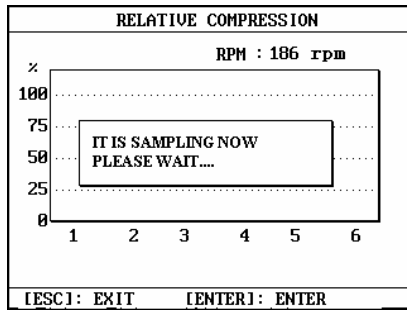
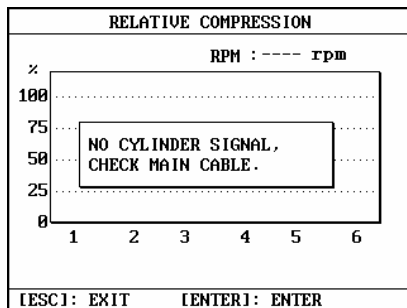

Fig.7-52
Fig.7-53
- ◆ After the engine is started, the screen will be displayed as shown in Fig.7-52. KES-200 is collecting data now. If the cylinder 1 signal cable is not connected properly, the screen as shown in Fig.7-53 will be displayed. Connect the cylinder 1 signal cable properly and test again.
- ◆ If the engine cannot be started after 50 seconds, the screen will be displayed as shown in Fig.7-53. In this case, you must press [ESC] key to exit, and then re-enter and try the test again.
If the test cable is not connected properly, the screen will be displayed as shown in Fig.7-53 after engine is started. It is necessary to press [ESC] to exit the test, reconnect the test cable, and perform the test again.